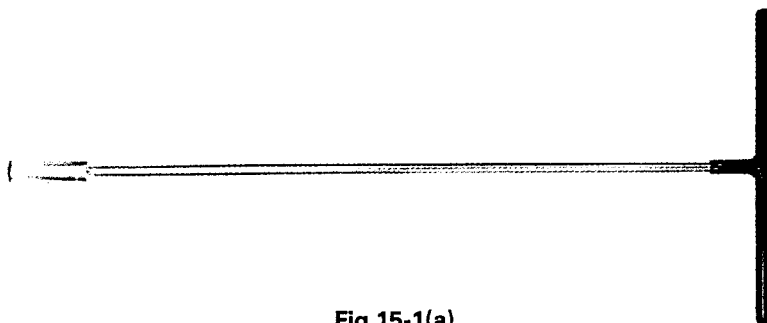

Fig.15-1(a)
1. T TYPE BOX DRIVER #859C35802 (Fig. 15-1(a))
- 1(b). HEX DRIVER DIT-Part #859C35800 (Fig. 15-1(b))